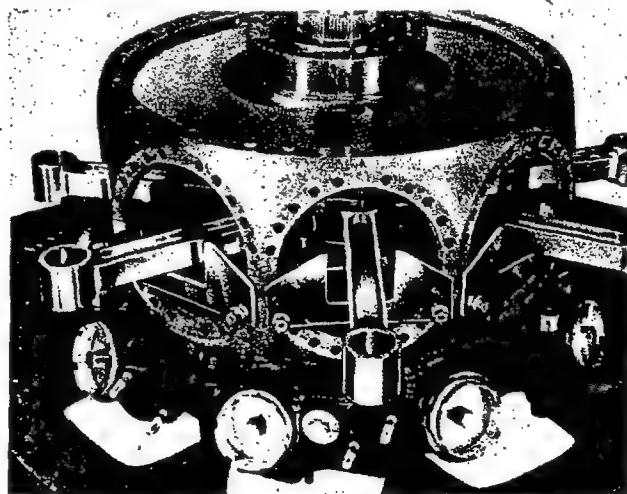

Figure 47—Articulated Rod Protectors
(9) As the cylinder is being removed from the engine, but before the cylinder skirt clears the bottom piston ring, a cloth should be drawn around the connecting rod and spread over the cylinder hole to prevent pieces of broken piston ring from falling into the crankcase.
(10) Install an articulated rod guide on the cylinder pad, and secure it temporarily with two cap screws. See figure 47. Install a fin protector around the cylinder if the cylinder is to be used again.